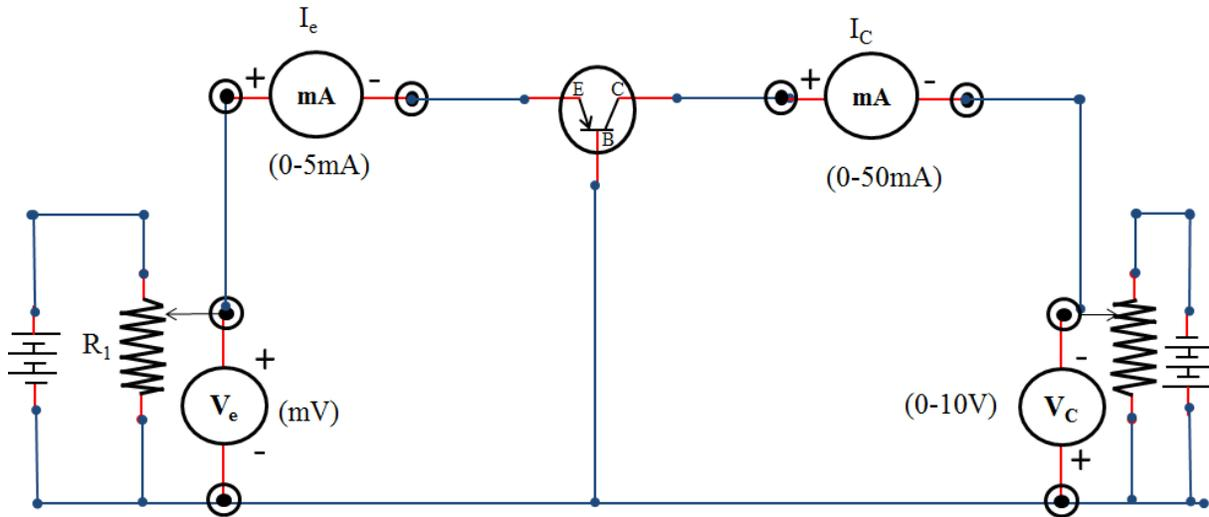

Figure 1. Circuit diagram for common base arrangement
**(B) In common emitter arrangement we draw:**
**PROCEDURE:****(A) Common Base Arrangement:****1.  $I_c/V_c$  characteristics:**
- (i) Make the electrical connections as shown in figure 1 (next page).